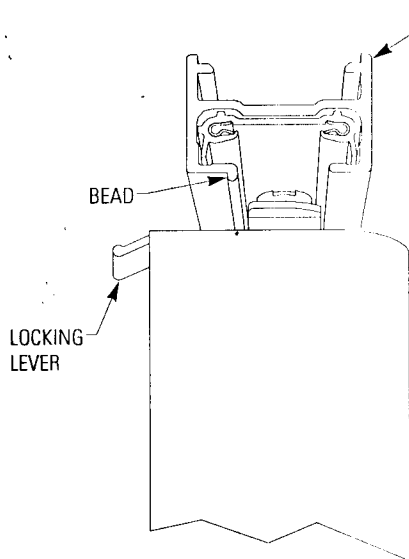

FIG. 1
1. Insert into LYTESPAN TRACK (see Fig. 1). LOCKING LEVER must be in same side of track as BEAD.